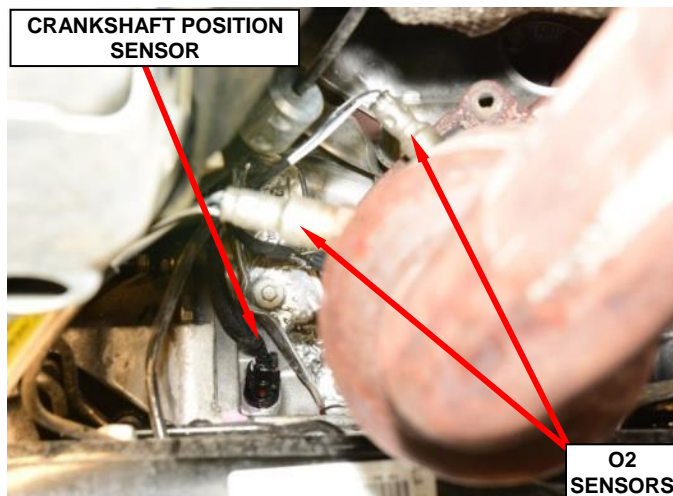

Figure 72 – Crankshaft Position and O2 Sensors
24. Disconnect the oxygen sensor electrical connectors (Figure 72).
25. Disconnect the crankshaft position sensor electrical connector located on the right side of the engine near the transmission bell housing and below the exhaust manifold (Figure 72).